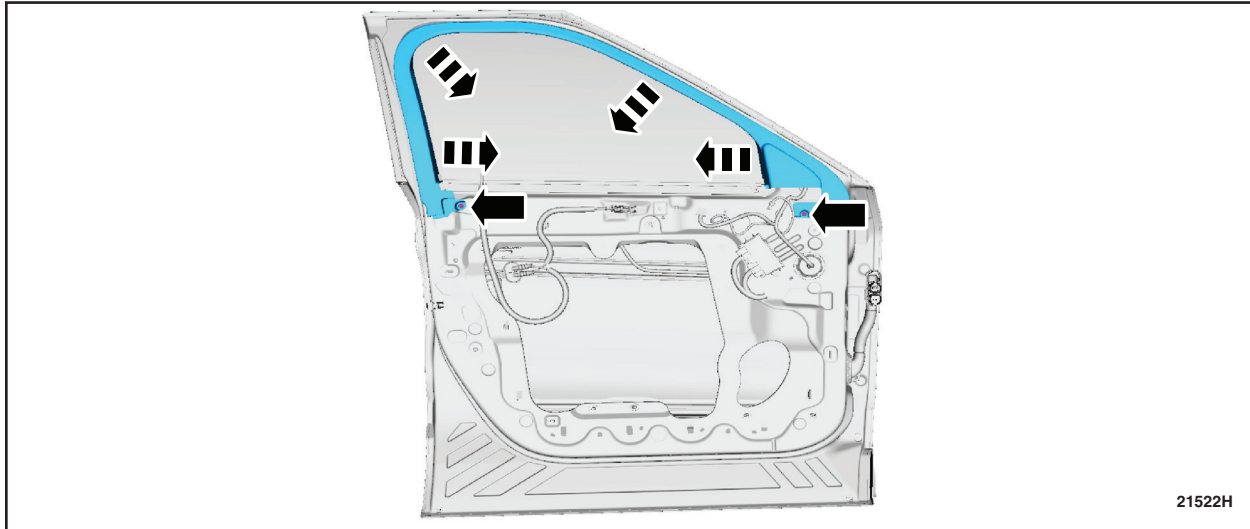

**FIGURE 24**
10. Route the interior door handle cable, door lock indicator cable and grommet through the front door window regulator and remove the front door window regulator. See Figure 24.